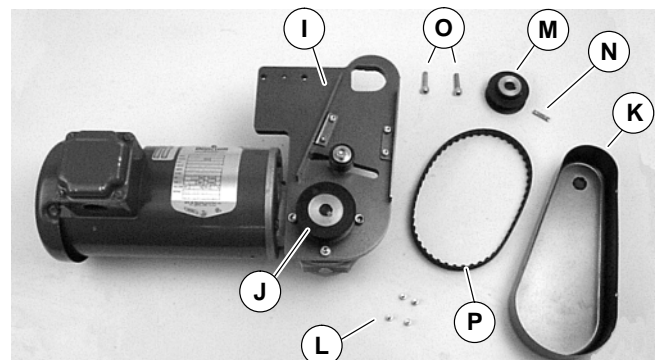

Figure 4
1. Typical components (Figure 4)
NOTE: Flat belt mounting package shown above (Figure 4), cleated belt mounting package similar.